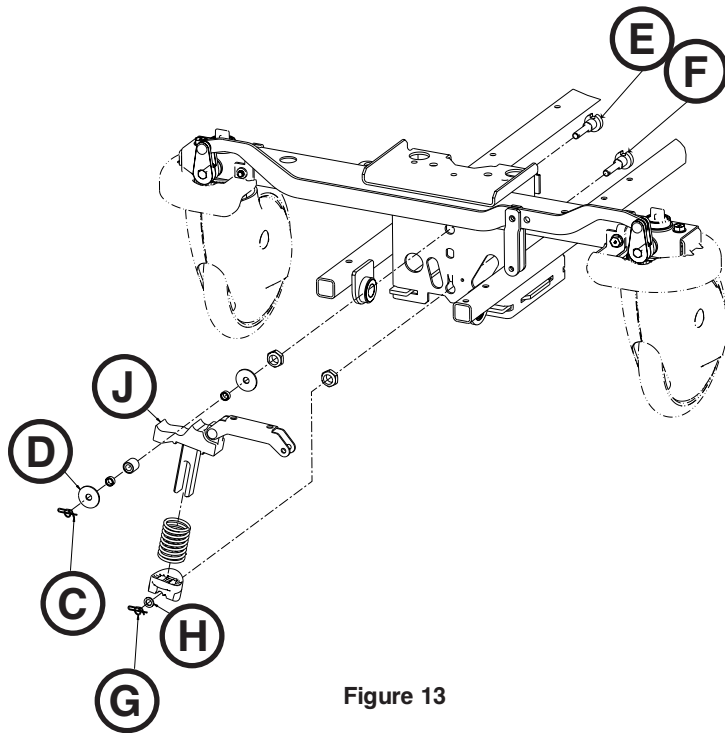

Figure 13
7. Using needle nose pliers, remove the rue ring cotter (C) and washer (D) from the top bearing pivot support (E) (Figure 13).
8. Using needle nose pliers, remove the rue ring cotter (G) and plastic washer (H) from the bottom support (F) (Figure 13).
9. Raise the brake cam and link assembly off of the brake rod actuator and slowly pull outward on the brake cam and link assembly (J) (Figure 13).